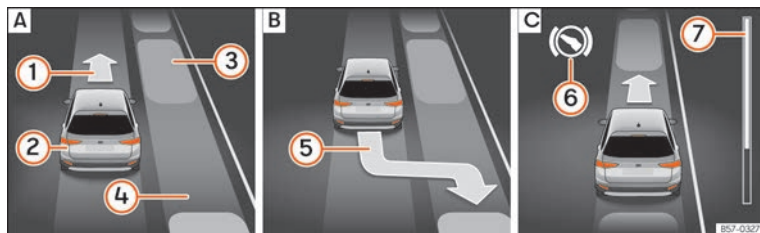
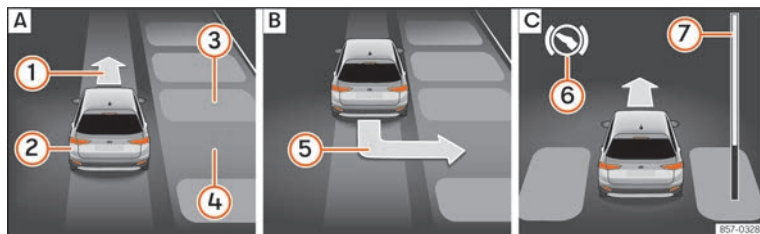

Fig. 282 On the instrument panel display: perpendicular parking. [A] Finding a parking space. [B] Parking position. [C] Manoeuvring.
Fig. 283 On the instrument panel display: parallel parking. [A] Finding a parking space. [B] Parking position. [C] Manoeuvring.
Key to **Fig. 282** and **Fig. 283**:
» **Fig. 282 ⑦** and » **Fig. 283 ⑦** on the screen of the instrument panel displays the relative distance to be covered. The greater the distance, the fuller the progress bar. When driving forward, the content of the progress bar decreases upwards, and when reversing, it decreases downwards.
2.	Look at the display on the instrument panel to see if the space has been detected as "appropriate" and if the correct position for parking has been reached » Fig. 282 [B] or » Fig. 283 [B]. The space is considered "appropriate" if the display on the instrument panel shows the message to park (5).
5.	Reverse until the ParkPilot continuous signal is heard. OR: reverse until the instrument panel displays the message to go forwards » Fig. 282 [C] or » Fig. 283 [C]. OR: reverse until the instrument panel displays the message Park Assist finished . The progress bar (7) indicates the distance to cover » page 310.
6.	Press down the brake pedal until the Park Assist system has finished turning the steering wheel. OR: until the (S) symbol on the instrument panel display switches off.
9.	Go forward until the ParkPilot continuous signal is heard. OR: go forward until the instrument panel display shows the message to reverse. The Park Assist system steers the vehicle forward and back until it centres it in the space » Fig. 282 [C] or » Fig. 283 [C].